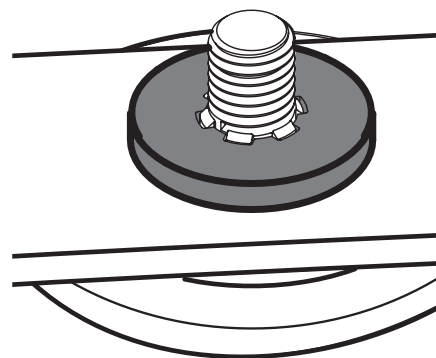

Figure 59
2. Carefully place the flat washer on the spindle shaft. Be sure that the splines at the base of the spindle shaft threads line up with the washer splines. See Figure 59.